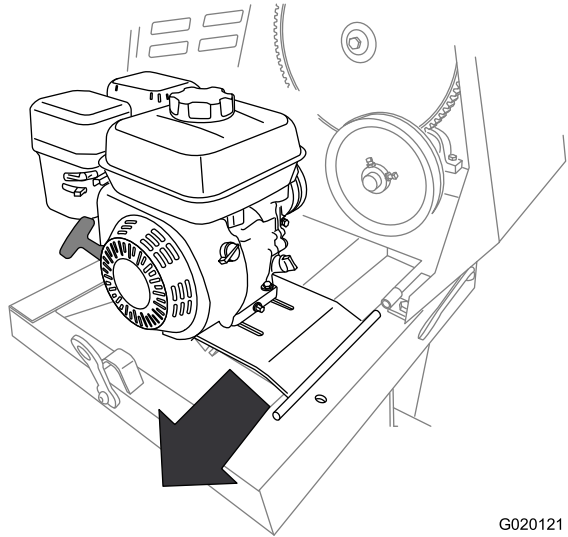

Figure 54
- Remove the engine and engine deck from the machine (Figure 54).
- Slide the engine deck rearward and out from the forward hinge bracket (Figure 54).
2. Align the pivot on the engine deck with the forward hinge bracket (Figure 54).
3. Slide the engine deck forward and the pivot into the forward hinge bracket (Figure 54).
4. Align the rear hinge bracket with the pivot on the engine-deck hinge (Figure 54).